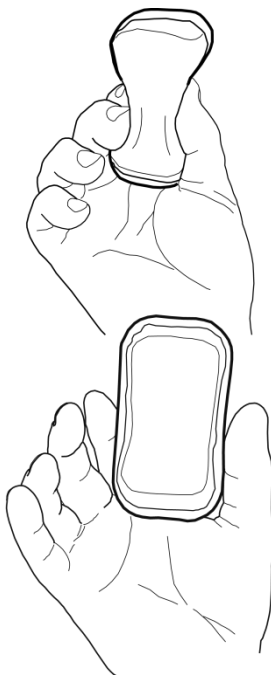

Figure 2. Squeezing Pad for Dynamic Response.
- b. Inspect each pad for dynamic response by squeezing all pads, including the crown and trapezoidal pads, lightly between the thumb and forefinger as shown in Figure 2.